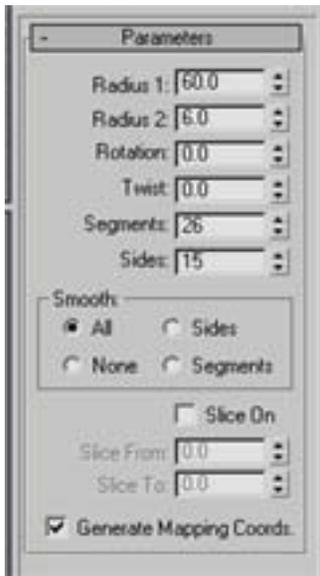

Figure 2. Parameter box
Step 2. To start, draw a Torus in the front view-port. Radius 1 should be 60. Radius 2 should be 6. Use 26 segments and 15 sides. The parameter's roll out should look like figure 2.